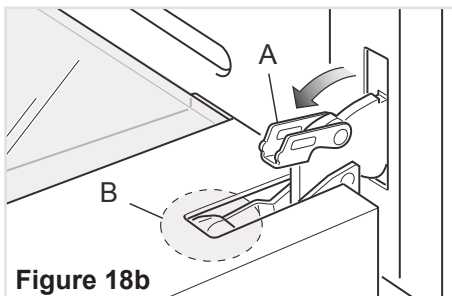

Figure 18b
- Open the lever “A” completely on the left and right hinges (fig. 18b).
- Gently close the door until left and right hinge levers “A” are hooked to part “B” of the door (figs. 18b, 18c).
- Open the lever "A" completely on the left and right hinges (fig. 18b).
- Gently close the door until left and right hinge levers "A" are hooked to part "B" of the door (figs. 18b, 18c).